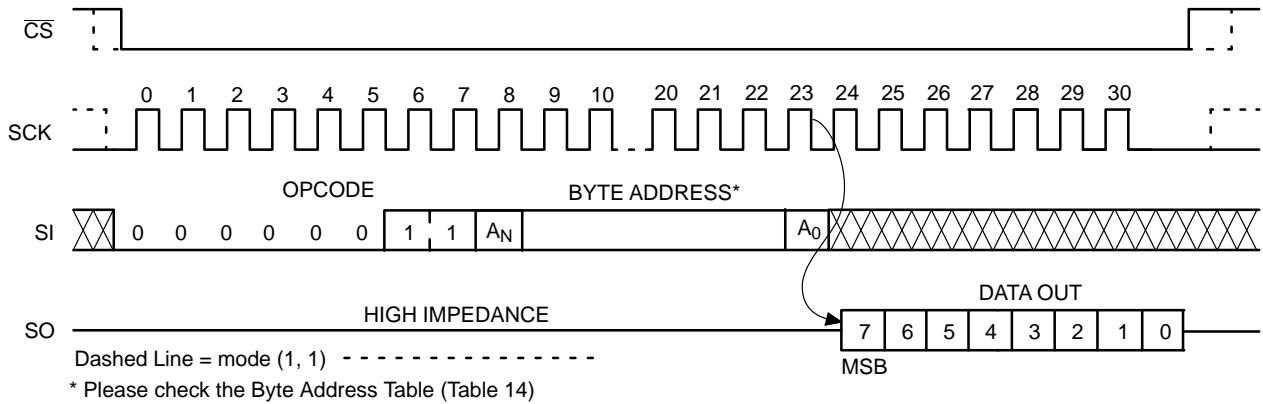

Figure 9. READ Timing
After receiving the last address bit, the CAS25256 will respond by shifting out data on the SO pin (as shown in Figure 9). Sequentially stored data can be read out by simply continuing to run the clock. The internal address pointer is automatically incremented to the next higher address as data is shifted out. After reaching the highest memory address, the address counter “rolls over” to the lowest memory address, and the read cycle can be continued indefinitely. The read operation is terminated by taking CS high.
Reading the additional 64-byte Identification Page (IP) is achieved using the same Read command sequence as used for Read from main memory array (Figure 9). **The IPL bit from the Status Register must be set (IPL = 1) before attempting to read from the IP.** The [A5:A0] are the address significant bits that point to the data byte shifted out on the SO pin. If the CS continues to be held low, the internal